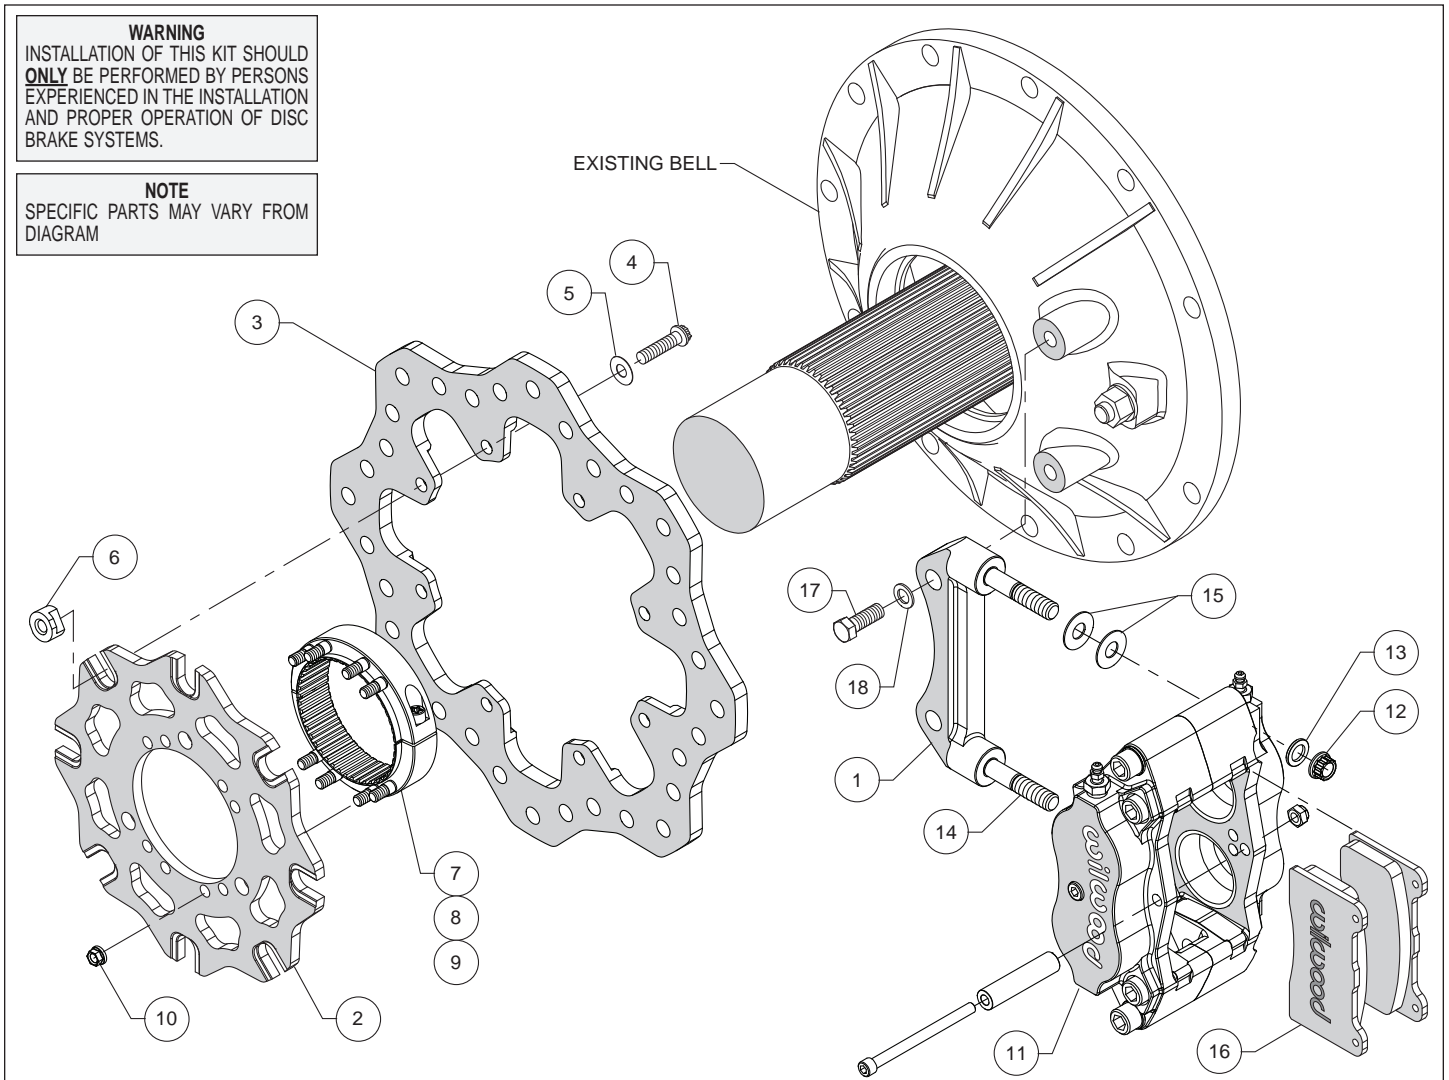

Figure 1. Typical Installation Configuration
• Orient the caliper mount bracket (1) as shown in Figure 1 and install using bolts (17) and washers (18). Temporarily tighten the mounting bolts. **NOTE:** The bracket must fit squarely against the mount bosses on the bell. Inspect for interference from casting irregularities, machining ridges, burrs, etc. Remove the bracket mounting bolts one at a time, apply red *Loctite*® 271 to the threads, and torque to 60 ft-lb.
• Orient the rotor adapter (2) and the rotor (3), as shown in Figure 1, and attach using bolts (4), washers (5) and t-nuts (6), Figure 1. Apply red *Loctite*® 271 to the bolt threads before installing. Finger tighten. After all t-nuts have been installed, torque bolts in an alternating sequence to 220 in-lbs. Please refer to Wilwood's data sheet DS-669 (available at www.wilwood.com/Pdf/DataSheets/ds669.pdf) for complete t-nut bolt kit installation instructions. **NOTE:** Rotor adapter may be fix mounted to rotor (instead of floating mount) using customer supplied hardware.
- Orient the axle clamp assembly (7, 8 and 9, pre-assembled) as shown in Figure 1 and install onto the rotor adapter (2) using nuts (10). Tighten nuts part way while still allowing clamp-to-rotor movement. The nuts will be torqued later, after aligning the rotor. **NOTE:** *The axle clamp should be positioned inside of the rotor as shown in Figure 1, not offset, or outside of the rotor adapter.*
- Lubricate the caliper mounting studs (14) with lightweight oil. Initially place two .035" thick shims (15) on each stud as shown in Figure 1. Mount the caliper (11) onto the bracket (1) using lock nuts (12) and washers (13), Figure 1. Temporarily tighten the lock nuts and view the rotor through the top opening of the caliper. The rotor should be centered in the caliper. If not, slide the rotor/adaptor assembly on the axle until the rotor is centered in the caliper. Tighten the clamp bolts (9) first, locking the clamp to the axle. Torque nuts (10) to 140 **in-lbs**.
- Remove the caliper center bridge pad retainer bolt, nut, and tube from the caliper. Insert the brake pads (16) into the caliper, with the friction material facing the rotor. Check that the top of the brake pad is flush with the outside diameter of the rotor. If not, adjust by adding or subtracting shims (15) between the caliper and the bracket. After the caliper pad height is set, torque the caliper lock nuts (12) to 30 ft-lb. Secure the brake pads in place with the center bridge pad retainer tube, bolt, and locknut. The locknut should be snug without play in the bolt or tube. Be cautious not to over tighten.